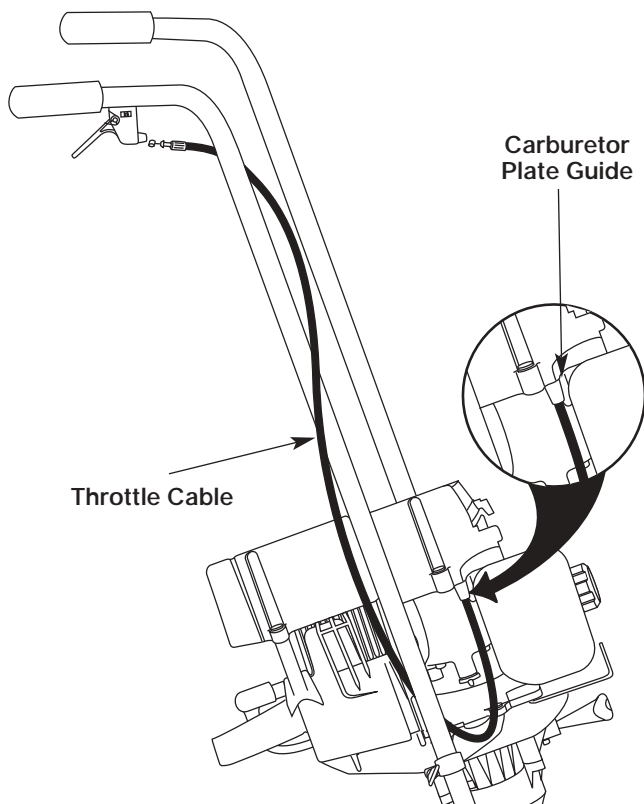

Figure 9
See Figure 9.
**NOTE:** Ensure the throttle cable fits properly into the guide at the carburetor plate on the engine. If it does not, the throttle will not work properly. See Figure 9.